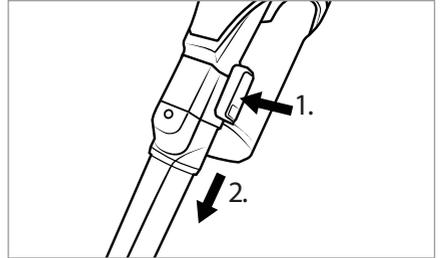

Fig. 15
- ◆ To remove the accessory, press and hold the release button on the accessory, then pull the accessory off the suction pipe 23 or the suction opening of the appliance (see Fig. 15).